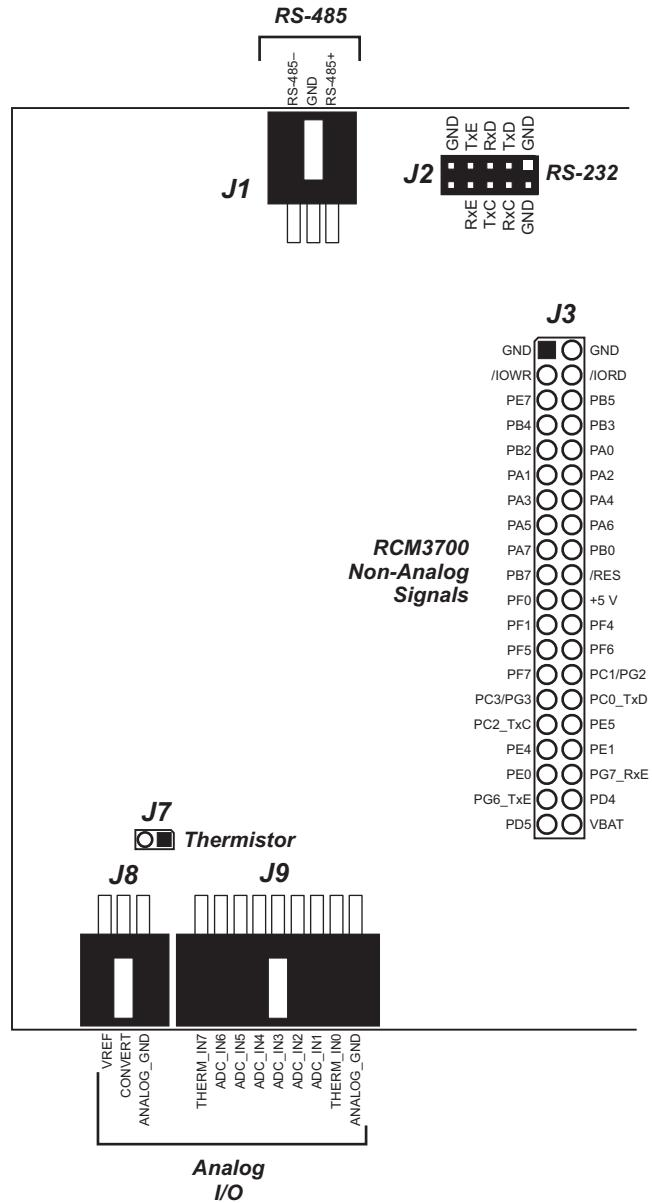

Figure B-4. Prototyping Board Pinout
- **Module Extension Headers**—The complete non-analog pin set of the RCM3600 module is duplicated at header J3. Developers can solder wires directly into the appropriate holes, or, for more flexible development, a 2 x 20 header strip with a 0.1" pitch can be soldered into place. See Figure B-4 for the header pinouts.
- **Analog I/O Shrouded Headers**—The complete analog pin set of the RCM3600 Prototyping Board is available on shrouded headers J8 and J9. See Figure B-4 for the header pinouts.
The Prototyping Board pinouts are shown in Figure B-4.
Analog input THERM_IN7 on the Prototyping Board was designed specifically for use with a thermistor in conjunction with the **THERMISTOR.C** sample program, which demonstrates how to use analog input THERM_IN7 to calculate temperature for display to the Dynamic C **STDIO** window. The sample program is targeted specifically for the thermistor included with the Development Kit with $R_0 @ 25^\circ\text{C} = 3\ \text{k}\Omega$ and $\beta 25/85 = 3965$. Be sure to use the applicable R_0 and β values for your thermistor if you use another thermistor. Install the thermistor at location J7, which is shown in Figure B-4.